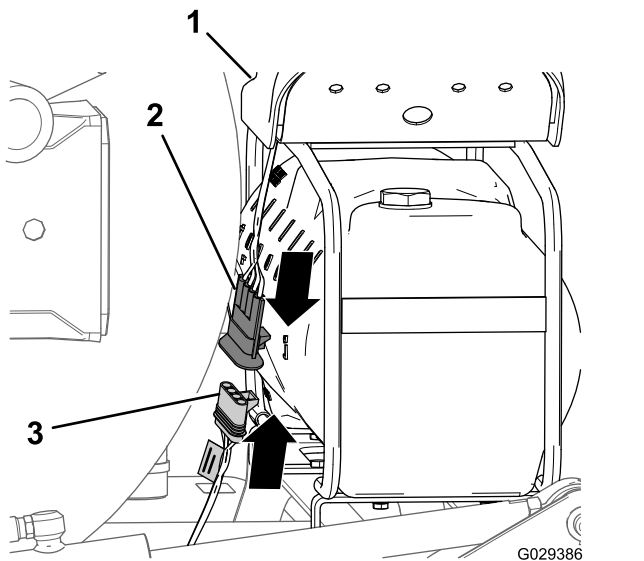

Figure 200
- At the end of the 236 cm (93 inches) branch of the wire harness, align the 4-socket connector of the wire harness for the finishing kit with the 4-pin connector of the wire harness from the compressor (Figure 200).
- Insert the 4-pin connector into the 4-socket connector (Figure 200).